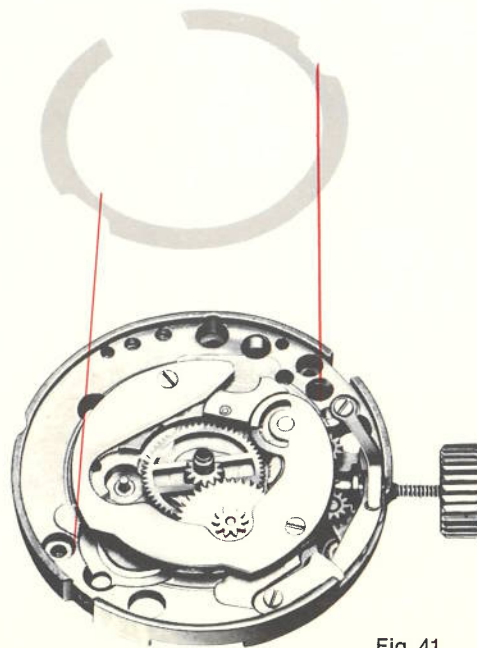

Fig. 41
Positioning The position of the retainer plate for setting pinion (229) is determined by the cut-outs made for the dial feet. (Fig. 41).